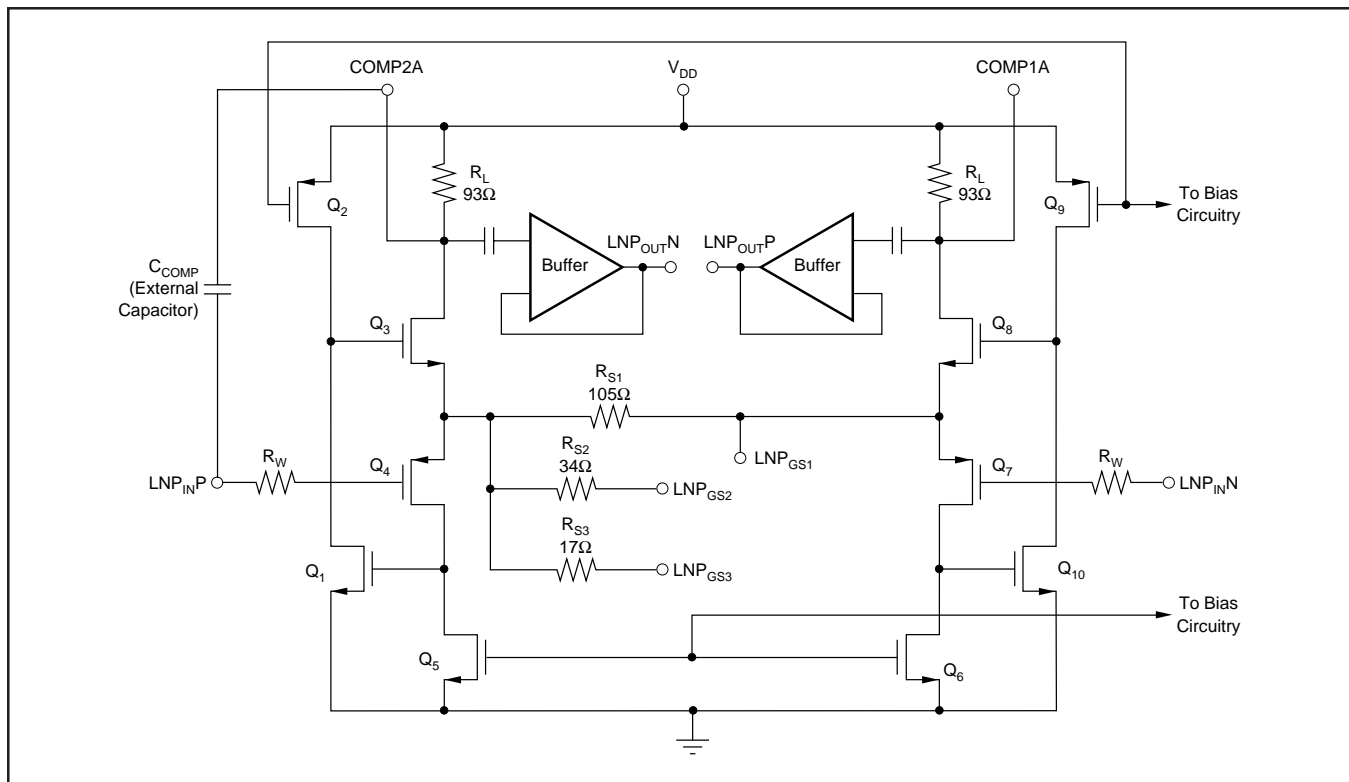

FIGURE 4. Schematic of the Low Noise Preamplifier (LNP).
The LNP is designed to achieve a low noise figure, especially when employing active termination. Figure 4 is a simplified schematic of the LNP, illustrating the differential input and output capability. The input stage employs low resistance local feedback to achieve stable low noise, low distortion performance with very high input impedance. Normally, low noise circuits exhibit high power consumption due to the large bias currents required in both input and output stages. The LNP uses a patented technique that combines the input and output stages such that they share the same bias current. Transistors Q₄ and Q₅ amplify the signal at the gate-source input of Q₄, the +IN side of the LNP. The signal is further amplified by the Q₁ and Q₂ stage, and then by the final Q₃ and R_L gain stage, which uses the same bias current as the input devices Q₄ and Q₅. Devices Q₆ through Q₁₀ play the same role for signals on the –IN side.
It is also possible to create other gain settings by connecting an external resistor between LNPG_{S1} on one side, and LNPG_{S2} and/or LNPG_{S3} on the other. In that case, the internal resistor values shown in Figure 4 should be combined with the external resistor to calculate the effective value of R_S for use in Equation (1). The resulting expression for external resistor value is given in Equation (2).
where R_{EXT} is the externally selected resistor value needed to achieve the desired gain setting, R_{S1} is the fixed parallel resistor in Figure 4, and R_{FIX} is the effective fixed value of the remaining internal resistors: R_{S2} , R_{S3} , or $(R_{S2} \parallel R_{S3})$ depending on the pin connections.
For greatest flexibility and lowest noise, the user may wish to shape the frequency response of the LNP. The COMP1 and COMP2 pins for each channel (pins 10 and 11 for channel A, pins 26 and 27 for channel B) correspond to the drains of Q_3 and Q_8 in Figure 4. A capacitor placed between these pins will create a single-pole low-pass response, in which the effective R of the RC time constant is approximately 186Ω .